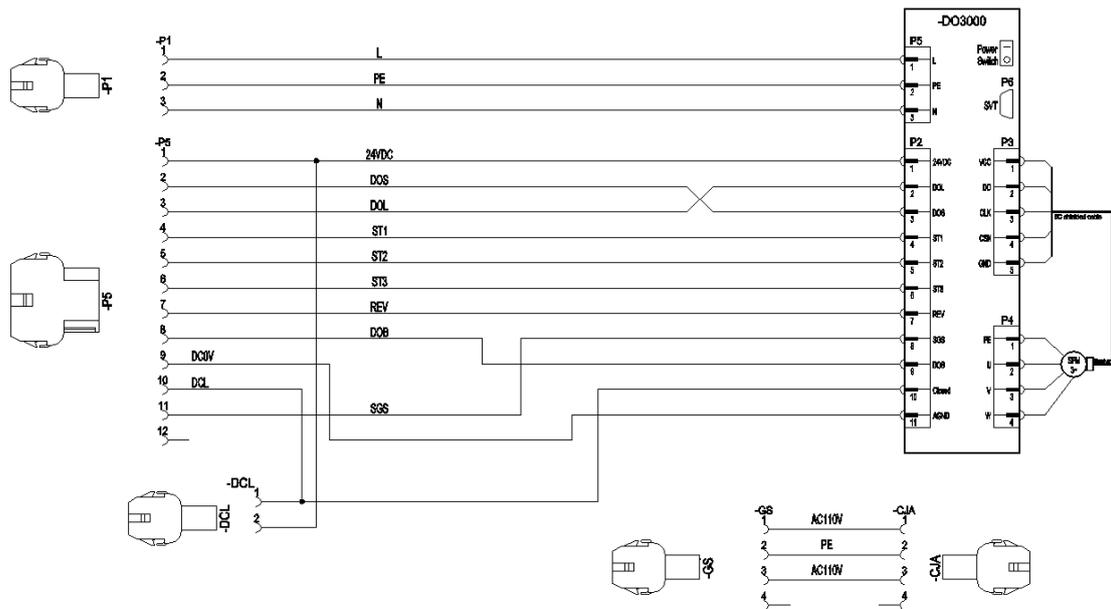

Fig.3-6 Wiring of HAA24360G5, HAA24360G10 controller components
3.1.5 Wiring of HAA24360G5, HAA24360G10 controller components (as shown in Fig.3-6)